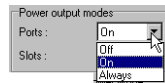

Figure 2-4. Select Power Output Modes – Ports
5. Select the **Power output modes Ports** drop-down list to set power output on the serial ports (Figure 2-4).